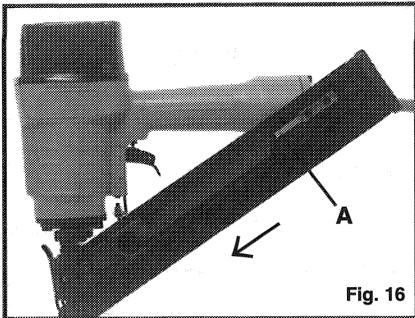

Fig. 16
3. Feed the strip of nails into the magazine ("T" slot), until they are past the stop (A) Fig. 16.